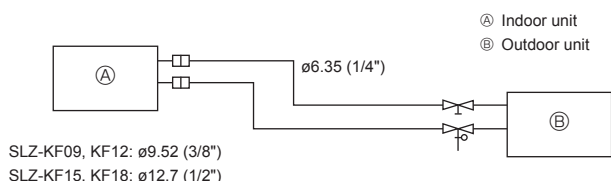

Fig. 5-1
5.2. Refrigerant pipe (Fig. 5-1)